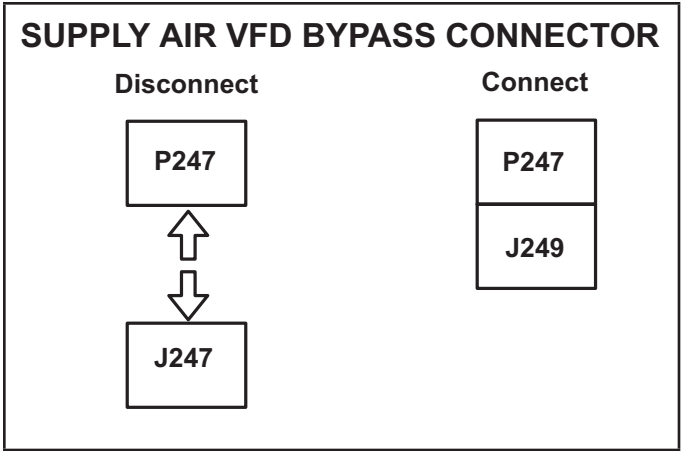

FIGURE 43
- 2 - Locate J/P247 and J/P248 connectors near the VFD. See figures 43 and 44.
- 3 - Disconnect P247 from J247 and connect J249 to P247. See figure 43.